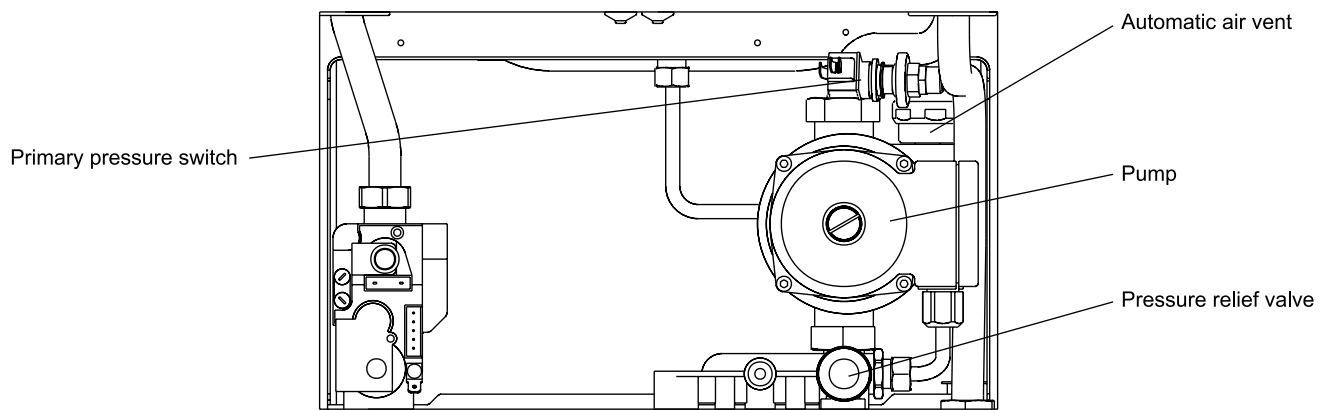

Fig. 23
8.18 AUTOMATIC AIR VENT - Fig. 23
8.19 PUMP - Refer to Fig. 23
8.20 PRIMARY PRESSURE SWITCH - Fig. 23
8.21 PRESSURE RELIEF VALVE - Fig. 23